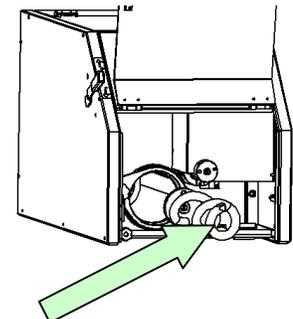

Fig. 13
8. As in Fig. 13, extract the feeder screw.